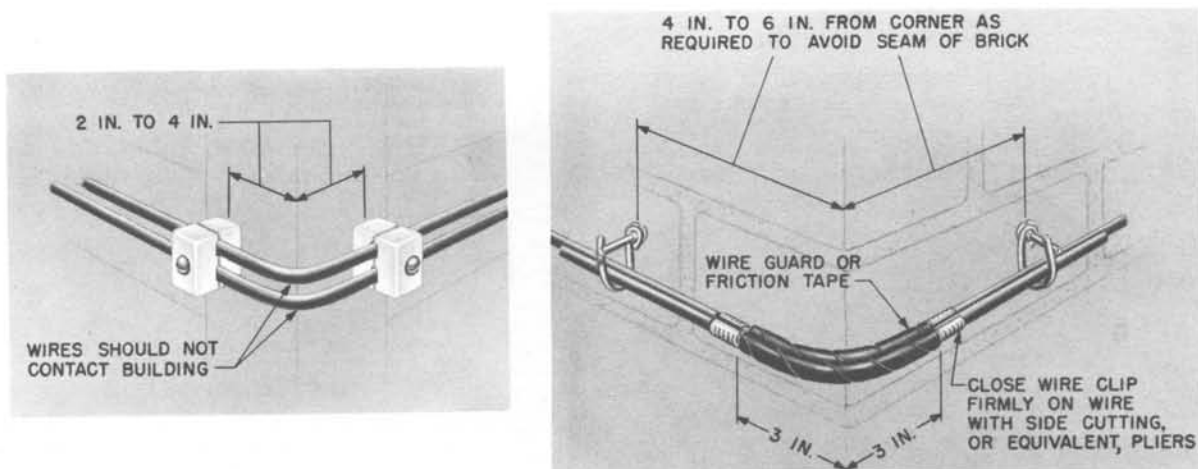

Fig. 10 — Intermediate Building Attachments at Outside Corners
3.00 INTERMEDIATE ATTACHMENTS ON BUILDINGS (Fig. 10 through 14)